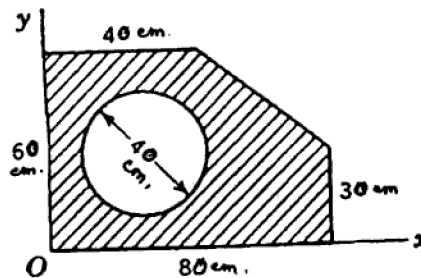

Fig. 8
11. a) Referring to Fig. 8 determine the coordinates of the centre of the circular hole cut in a thin plate so that this point will be the centre of gravity of the remaining shaded area.